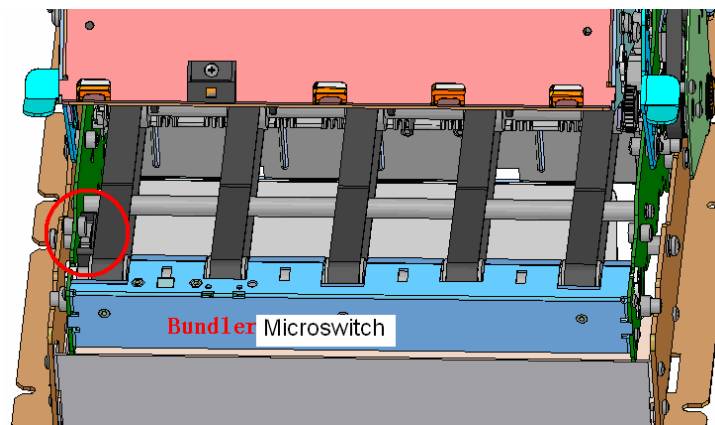

Fig.3.4.5 Bundler sensor 4
- ✧ Bundler open sensor: A microswitch is used to detect Bundler status. When detecting upper path of Bundle lifting, the printer stops working and alarm as shown in Fig. 3.4.5.